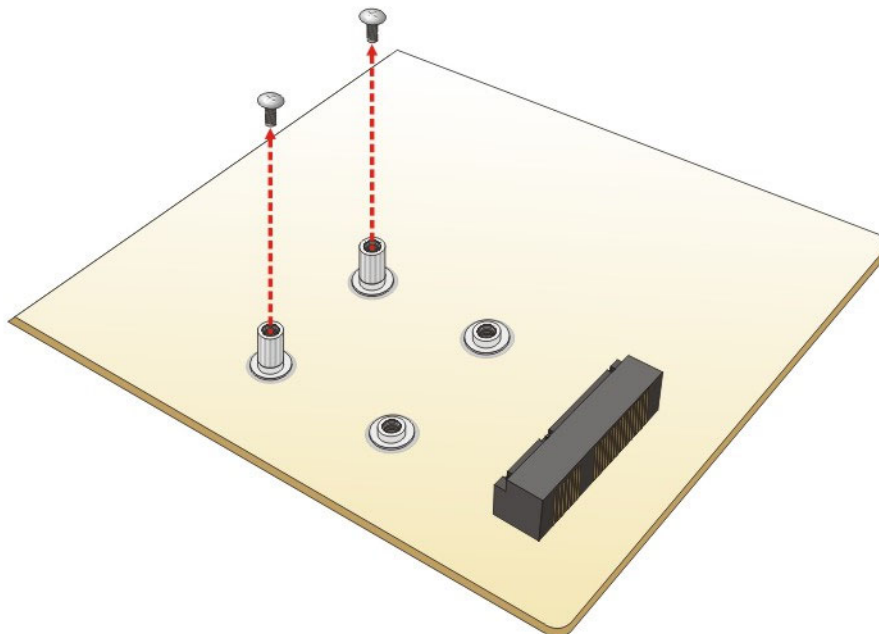

Figure 3-13: Removing the Retention Screws
Step 3: Remove the retention screws. Remove the two retention screws as shown in Figure 3-13.